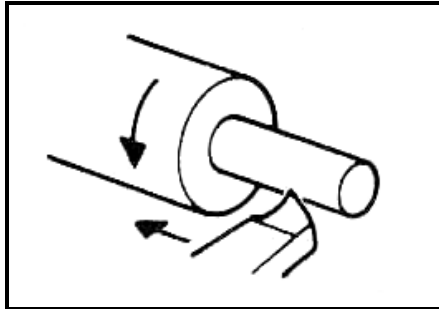

FIGURE 1.3
- D Single-corner rounding cutter (1)
1.8 Which lathe operation is shown in FIGURE 1.3 below?